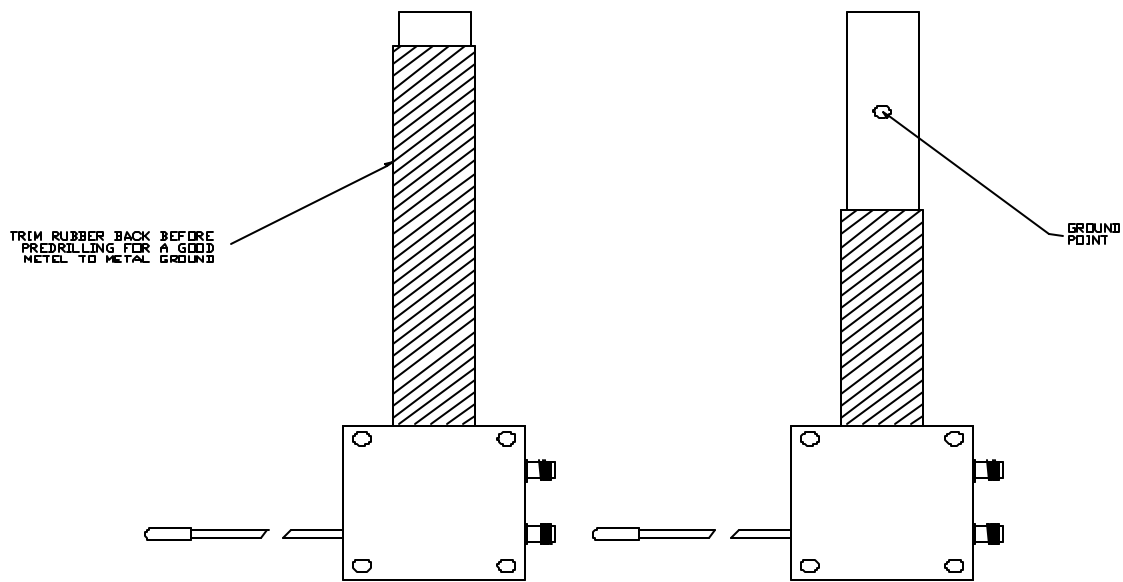

Figure 3- Ground Strap Preparation
1. Trim back the rubber insulation to expose the pre-drilled holes. Refer to Figure 3 – Ground Strap Preparation.